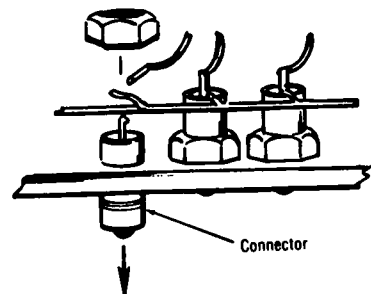

Figure 7-5. REMOVE AND REPLACE LED.
5. See Figure 7-5. Unscrew the nut on the back of the LED connector, push connector upward through the panel, and pull defective LED out of connector.